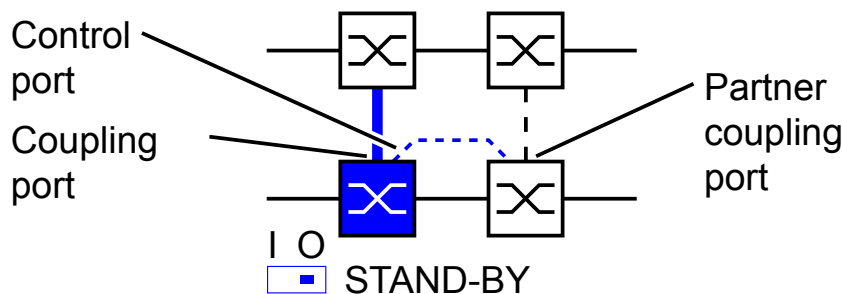

Figure 21: Two-Switch coupling with control line
- ☐ Select two-Switch main coupling with control line (see fig. 21).